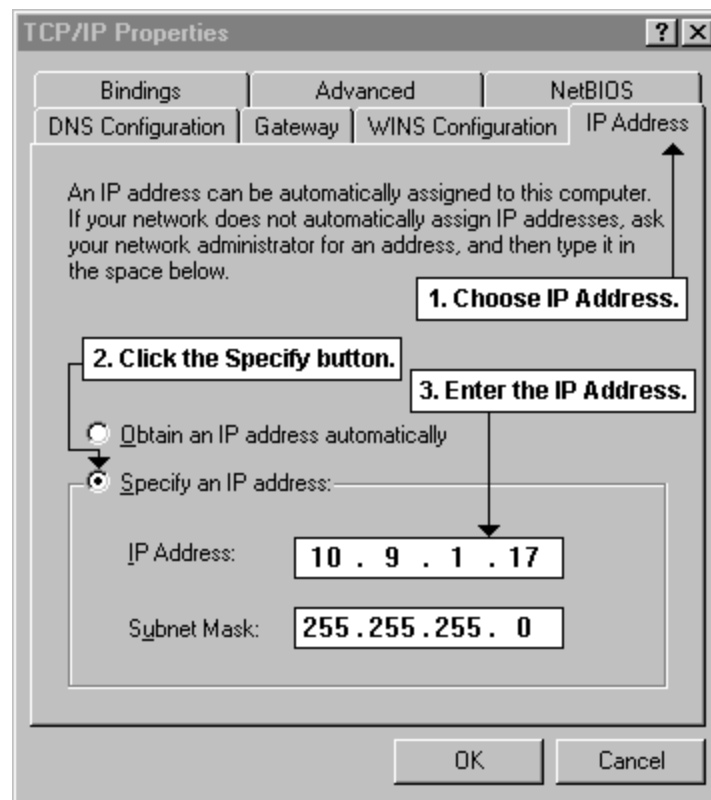

Figure 3-9
- a. For Windows 9x® or NT®: (Figure 3-9)